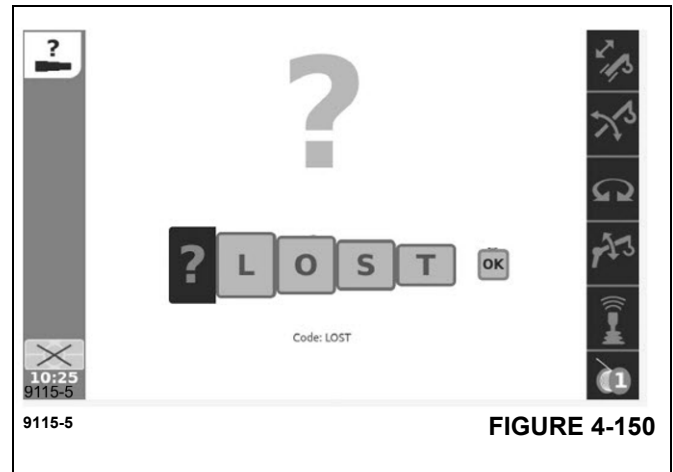
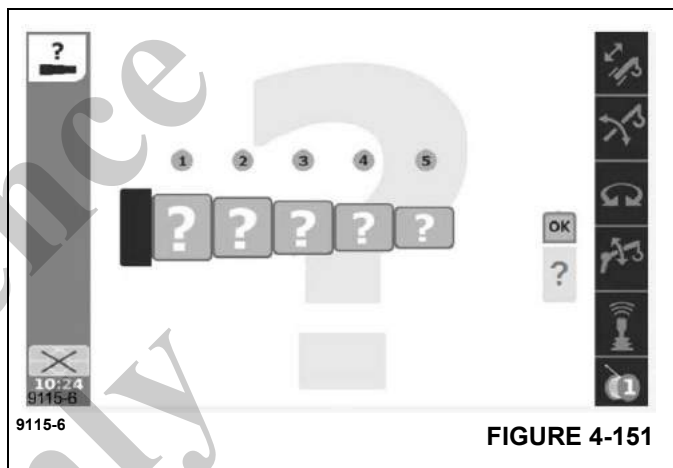

FIGURE 4-150
FIGURE 4-151
- The request reset telescoping screen appears as shown in (Figure 4-150). This screen is for entering a confirmation code. The confirmation code is L-O-S-T. When these letters are entered on the screen, then an Enter button can be used on the OK shown on the screen. If this is the correct code, then the reset telescoping screen appears as shown in (Figure 4-151).
- In the reset telescoping screen, as shown in (Figure 4-151), the operator can indicate the current boom configuration (“actual tele picture”). It is seen that there are 5 available boxes (for the 5 telescoping boom sections). Each of these spin boxes can be used to change to one of the following:
- When each of the spin boxes is set to the correct value or indication, then an Enter button can be used on the OK in the screen. If the control system confirms this boom configuration, then a check-mark appears below the OK. Otherwise, the question mark shown under the OK (as in Figure 4-151) will remain; in this case, the operator should exit the screen and repeat an attempt to enter the actual boom configuration.